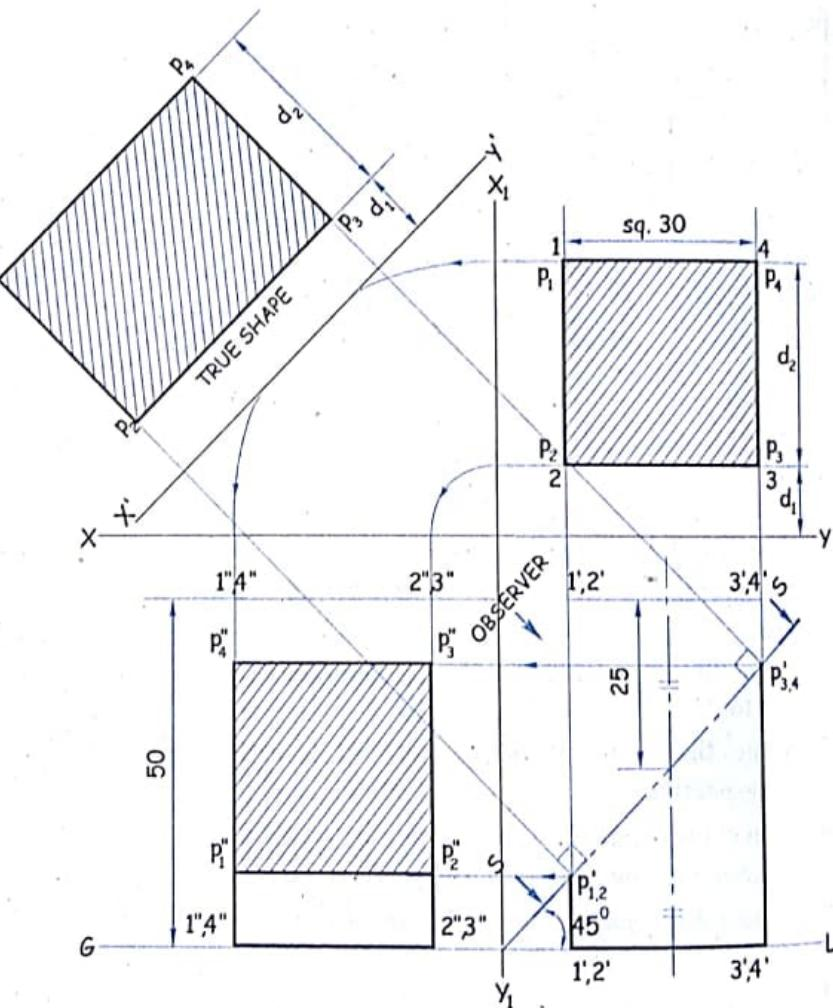

FIG. 11.9 (c)
- Draw the projectors through P_1, P_2, P_3, P_4 perpendicular to the section plane $S-S$ from the F.V. as shown in figure 11.9 (c).